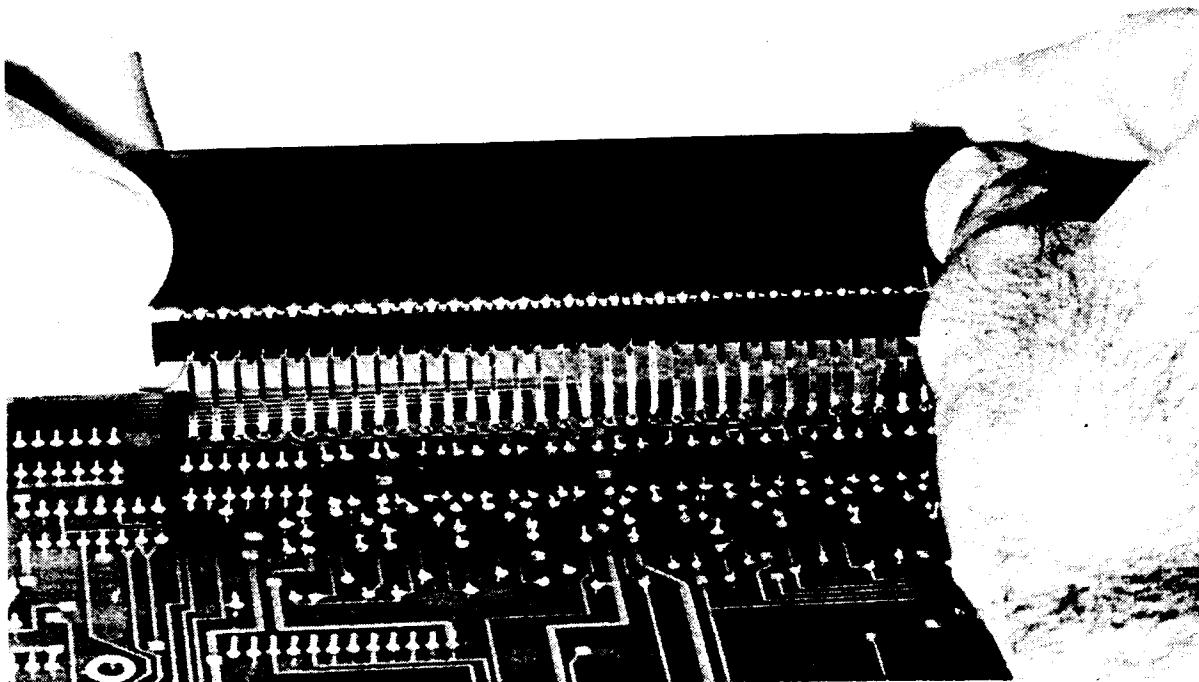

Figure 2-8. Display Filter
- Place the filter over the display tube (out of the instrument), and note the darkness of the display character traces. (See Figure 2-8).